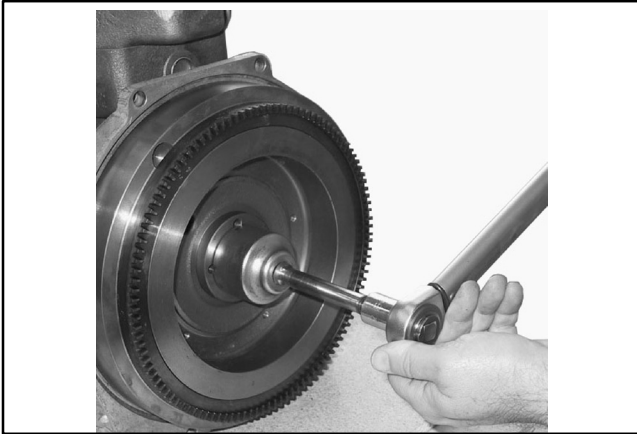

Figure 10-64 Flywheel
3. Install the flywheel on the tapered side of the crankshaft and tighten the nut at the specified torque. See Section 1.5. See Figure 10-64.